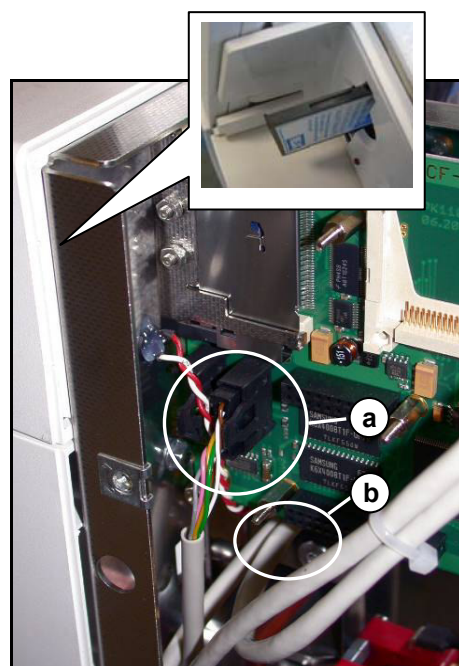
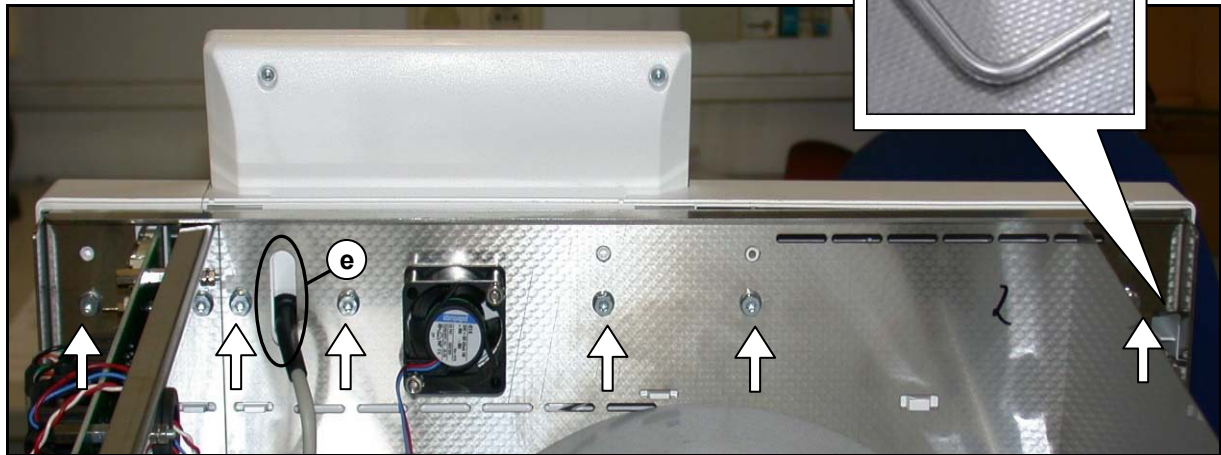

Fig. 1
Fig. 3
2. Remove the connection cable to the b/w display (Fig. 1, pos. a) from the control electronics and slide the cable through the conduit in the holding plate of the control electronics (Fig. 1, pos. b).
5. To be able to dismantle the display cover the small hinge hook (Fig. 3, detail) must be removed.
3. Guide the display cable from the front through the elongated hole in the front panel (see Fig. 3, pos. e) and through the conduit in the holding plate of the control electronics (see Fig. 1, pos. b). The cable laying through the ferrit core is not applicable.
4. Connect the display cable connector to the connection (Fig. 1, pos. a) on the control electronics.